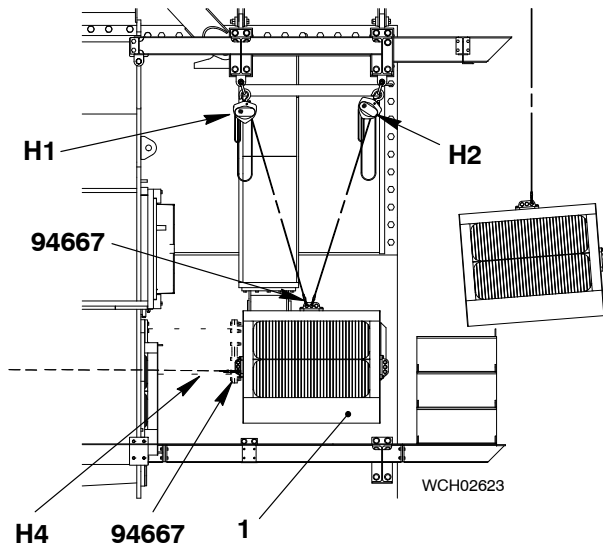

Fig. 10
- 12) Remove the manual ratchet (H4, Fig. 10) from the rear of the water separator (1).